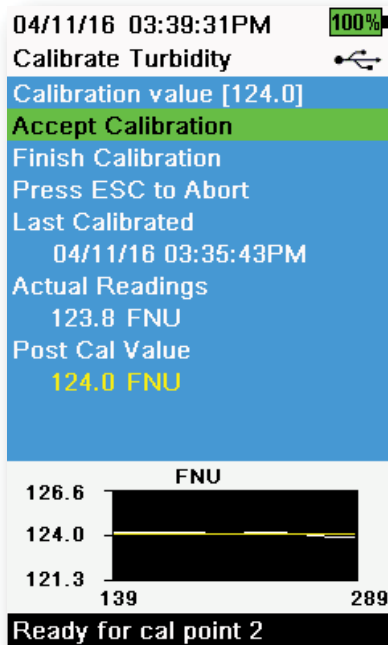

Figure 54 Calibrate Turbidity
8. Make sure there are no air bubbles on the turbidity sensor lens. Observe the actual measurement readings for stability, and then select **Accept Calibration** (Figure 54). "Ready for cal point 3" will be displayed in the message area.